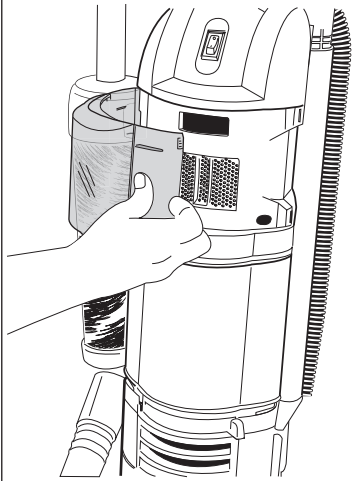

FIG. 14
Step 1: Remove top filter cover by grasping right edge and pivoting to the left (FIG. 14).